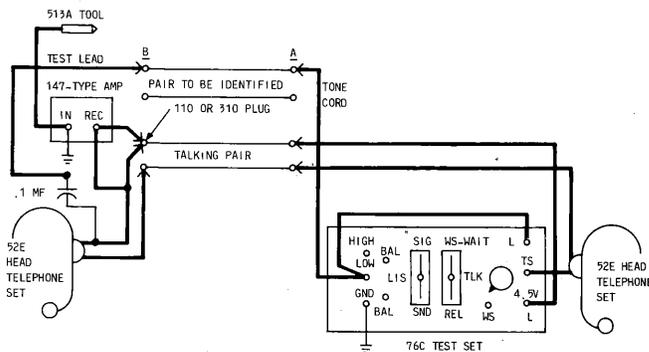

Fig. 4—Grounded Tone and 147-Type Amplifier
2.07 A 147-type amplifier may be combined with the talk circuit as shown in Fig. 4. However, if this arrangement is inconvenient, the amplifier may be used with a separate receiver.